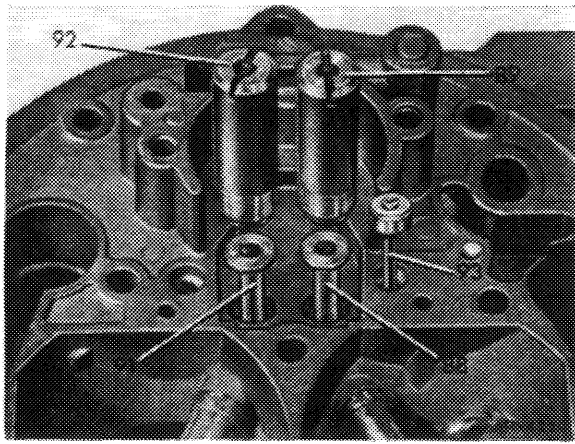

Fig. 07-3/9
6 Unscrew fastening screw (85) of float holder (84) and remove holder with float (82). Watch out for float shaft (Fig. 07-3/11).